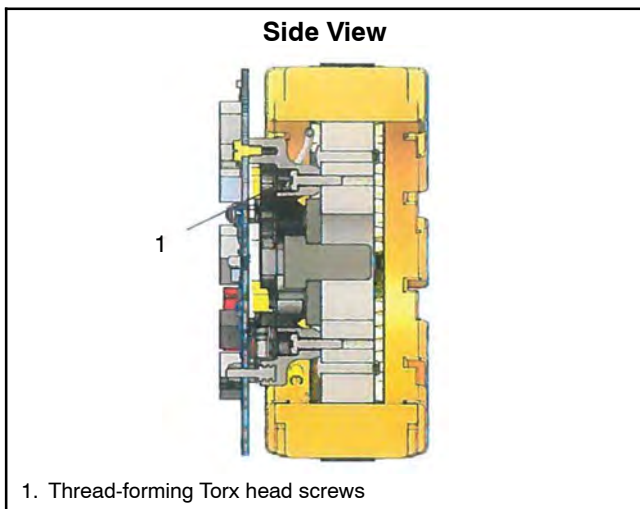

Figure 16-9 Spacer Installation
7. Mount the spacer to the exciter armature using six thread-forming Torx head screws. See Figure 16-9 and Figure 16-13.